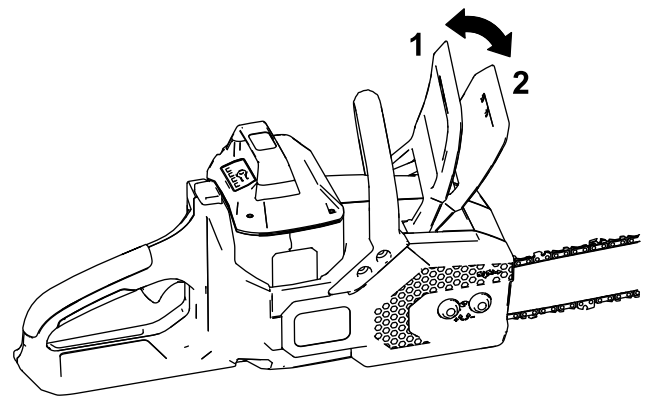

Figure 10
6. Ensure that the chain brake is in the OPERATING position (Figure 10).
Whenever you are not using the saw or are transporting the saw to or from the work area, move the chain brake to the STOP position (Figure 10) and remove the battery pack.